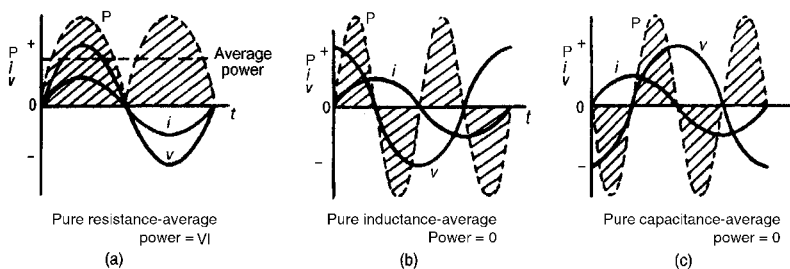

Figure 15.22
In Figures 15.22(a)–(c), the value of power at any instant is given by the product of the voltage and current at that instant, i.e. the instantaneous power, $p = vi$, as shown by the broken lines.
- (a) For a purely resistive a.c. circuit, the average power dissipated, P , is given by: $P = VI = I^2R = V^2/R$ watts (V and I being rms values) See Fig. 15.22(a)
- (b) For a purely inductive a.c. circuit, the average power is zero. See Fig. 15.22(b)
- (c) For a purely capacitive a.c. circuit, the average power is zero. See Fig. 15.22(c)